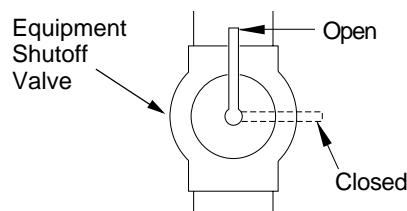

Figure 27 - Equipment Shutoff Valve
1. Close equipment shutoff valve (see Figure 27).
1. Open equipment shutoff valve (see Figure 27).